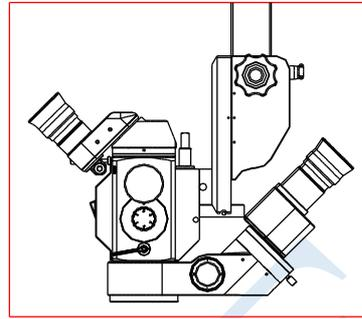

Fig.11
7. If it is needed that the doctor has to face the assistant, then adjust the assistant lens to the position of 180° relative to the main lens(indicated in Fig.11).